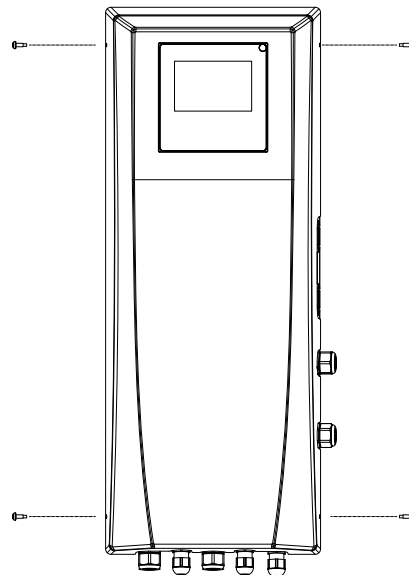

Figure 63. Front Panel Removal
4. Remove the front panel of the control box by removing the screws indicated in *Figure 63*.
6. Refit the front panel and the fixings as indicated in *Figure 63*.